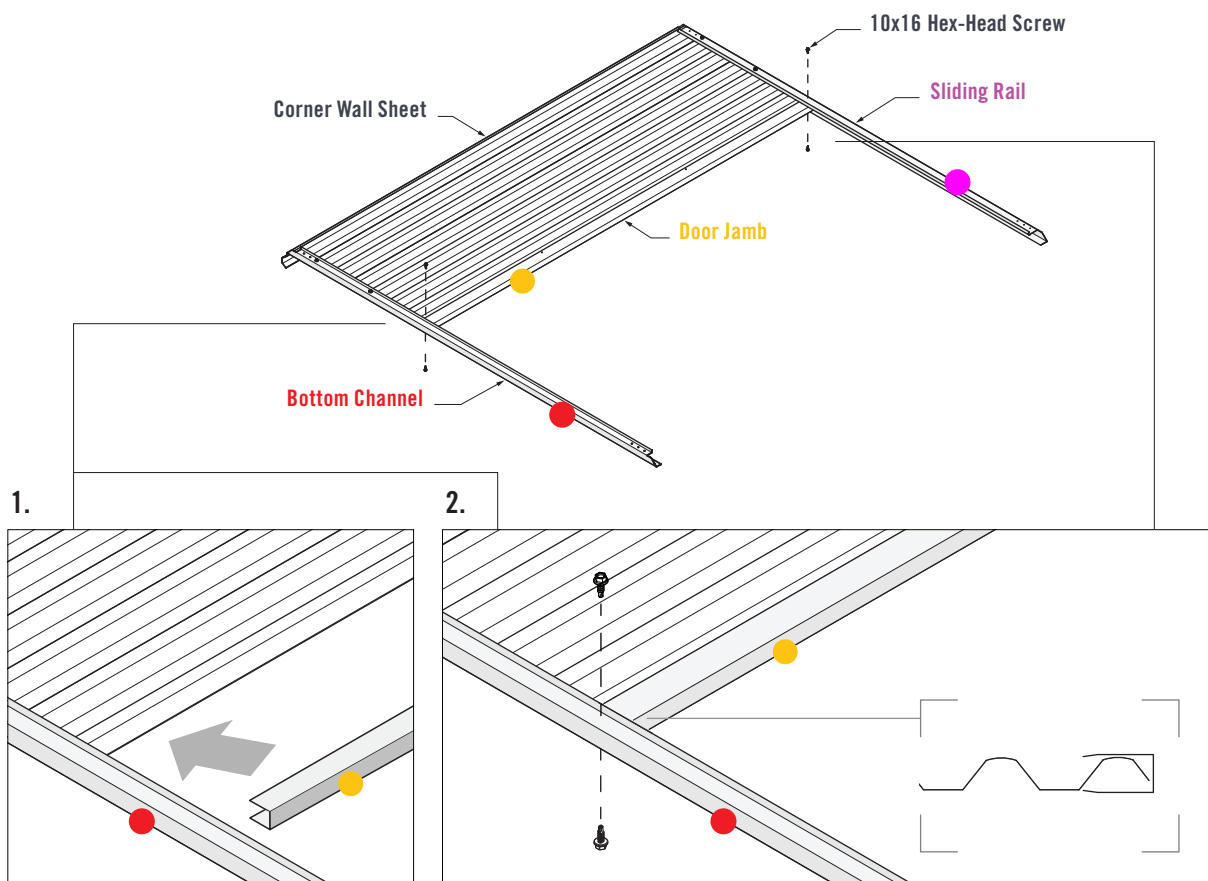

FIGURE 4.3
1. Fit the Door Jamb over the Corner Wall Sheet, ensuring it is inside the Bottom Channel and Sliding Rail (Figure 4.3).
2. Fasten two 10x16 Hex-Head Screws through the pilot holes of the Sliding Rail and into the Door Jamb. Fasten two 10x16 Hex-Head Screws through the Bottom Channel and into the Door Jamb (Figure 4.3).